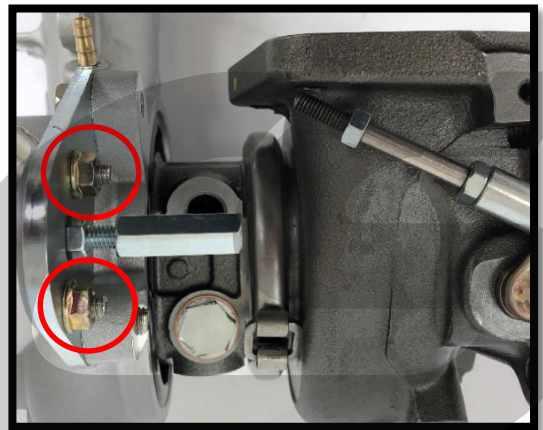

Figure 10e
- f) Once loosened, turn the turnbuckle until the two ends of the wastegate arm separate from one another. Shown in Figure 10e.
- g) Then remove the two 10mm nuts holding the IWG actuator to the compressor housing. Shown circled in red in Figure 10e.